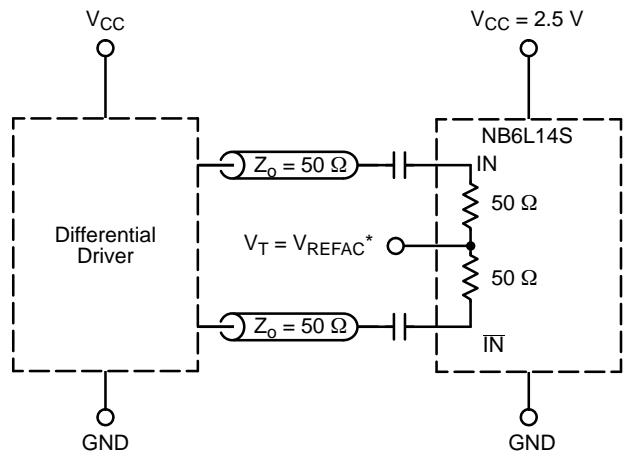

Figure 17. Capacitor-Coupled Differential Interface (V_T Connected to V_{REF_AC})
DIFFERENTIAL INPUTS DRIVEN SINGLE-ENDED (Figures 17, 18, 22, and 24)
11. V_{REFAC} used to rebias capacitor-coupled inputs only (see Figures 17 and 18).